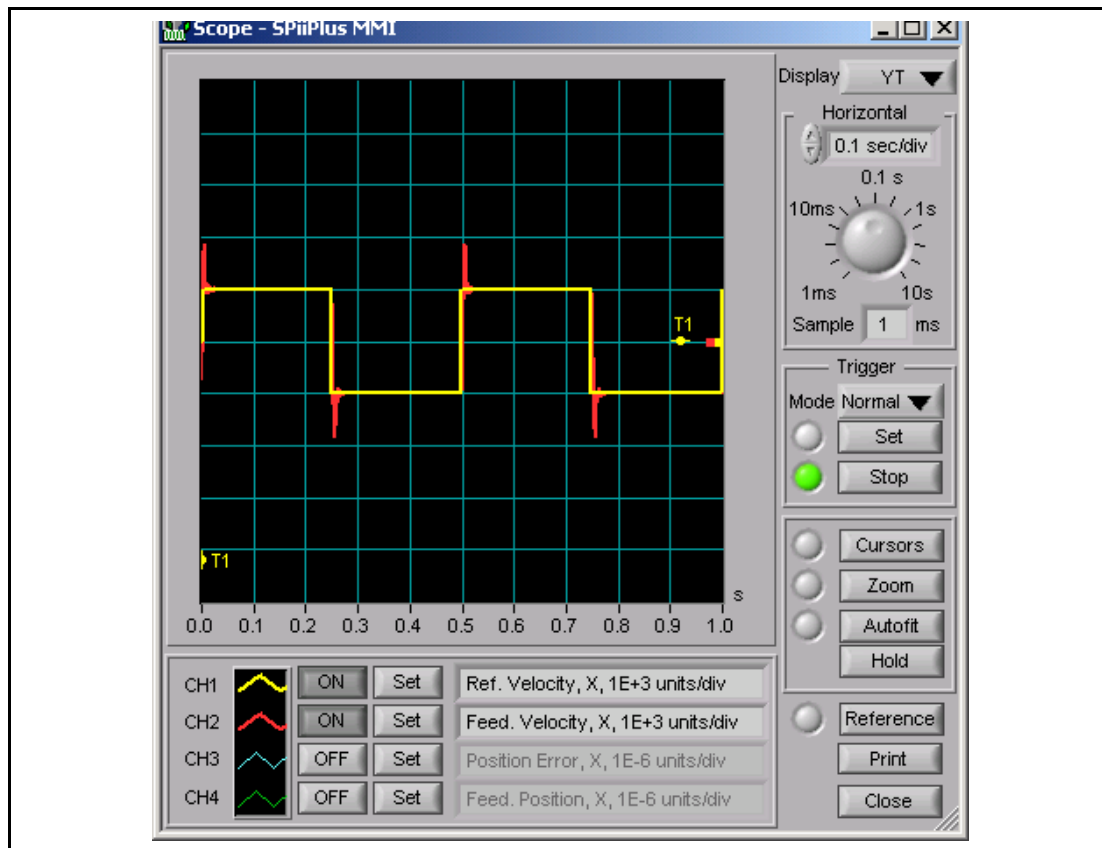

Figure 33 Example of Good Velocity Loop Tuning
14. Continue adjusting the **Velocity Gain** and **Integrator Gain** until a satisfactory profile is achieved, as illustrated in Figure 33.